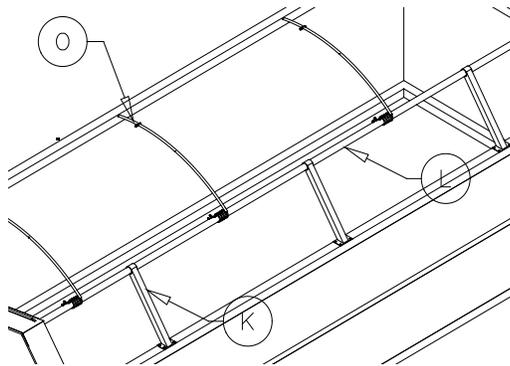
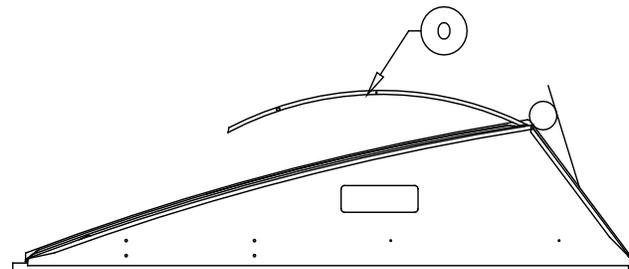

Figure 11
Figure 12
(See Figure 11, 12)
Procedure: Evenly space the Spring Loaded Cross-Members (O) on the Support Wall Roll-tube (L) between the hoods and Support Wall brackets (K) (see Figure 11). Adjust the Spring Loaded Cross-Members so that they are pointing upwards approximately at 10 o'clock. (Looking from the rear of the box) As the tarp opens, the Spring Loaded Cross-Members will spring upwards approximately 2ft above the tarp roll (See Figure 12). Tighten the 2" muffer clamp. The height of the Spring Loaded Cross-members can be adjusted to different heights to allow for more clearance. This will depend on what you are hauling.